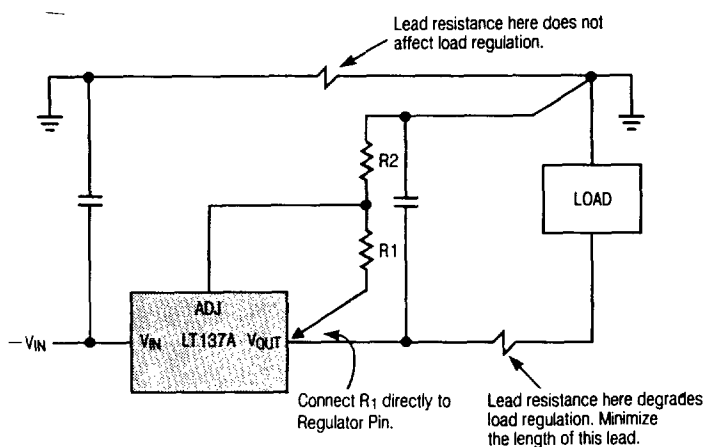

Figure 3
**Proper Connection of Divider Resistors:** The LT137A has an excellent load regulation specification of 0.5% and is measured at a point  $1/8$ " from the bottom of the package. To prevent degradation of load regulation, the resistors which set output voltage,  $R_1$  and  $R_2$ , must be connected as shown in Figure 3. Note that the positive side of the load has a true force and sense (Kelvin) connection, but the negative side of the load does not.